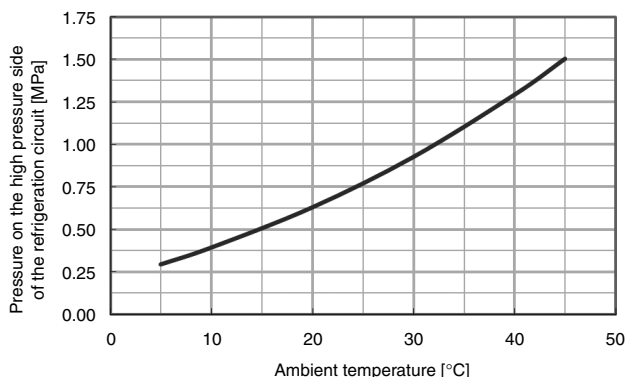

Fig. 4-4 Ambient temperature and refrigerant circuit pressure
- (1) Measure the ambient temperature (room temperature).
- (2) Check the pressure shown for “Ph: Refrigerant circuit pressure on the high pressure side” in the “Check Monitor Menu” of the Thermo-Chiller.
- (3) If the measured point is lower than the values shown in the graph in “Fig. 4-4: Ambient temperature and refrigerant circuit pressure”, it means there is refrigerant leakage caused.